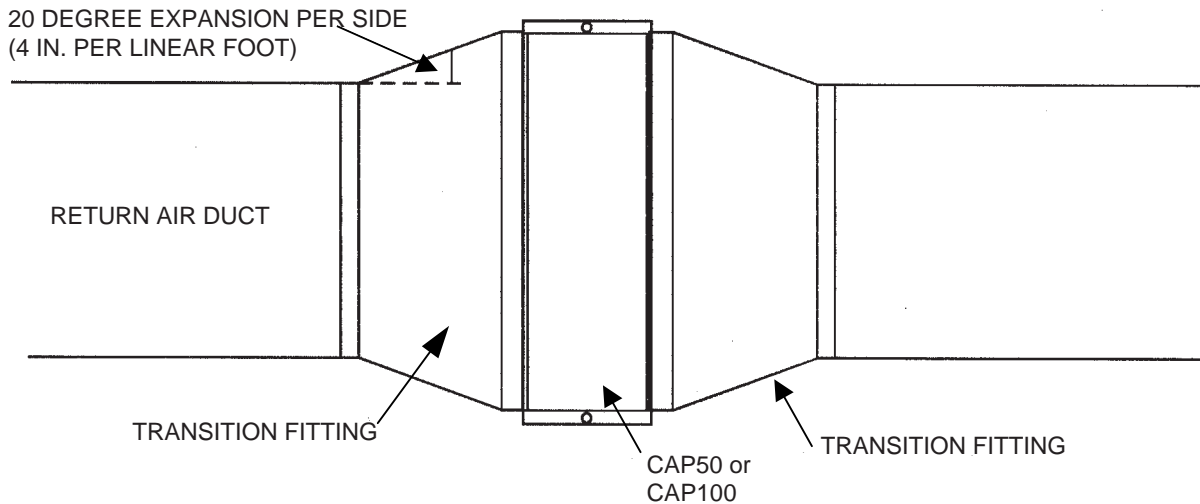

FIGURE B-2 TURNING VANES
- **Turning Vanes** should be added to a 90° elbow fitting if it connects directly to the upstream side of the CAP50 or CAP100. The vanes will ensure that air is distributed more evenly across the surfaces of the filters. **Refer to Figure B-2.**